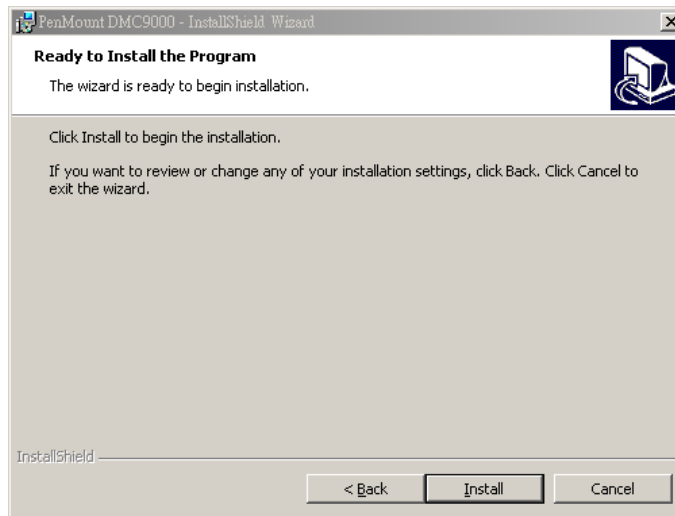

Figure 7-21: Ready to Install the Program
Step 4: Click **NEXT** and the Installshield Wizard is ready to install the program (Figure 7-21).